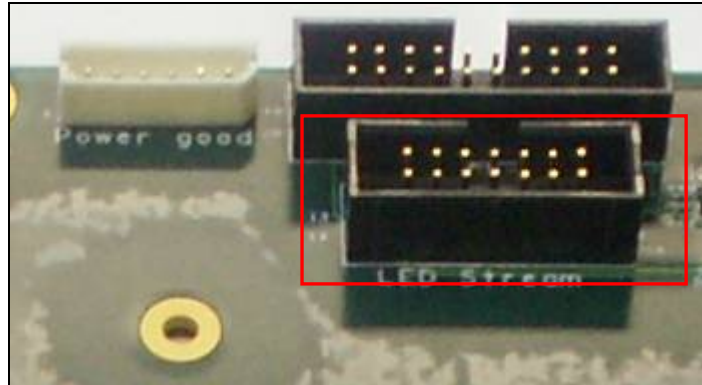

Figure 13: LEDs Indication
9. LEDs Indication (see Figure 13)